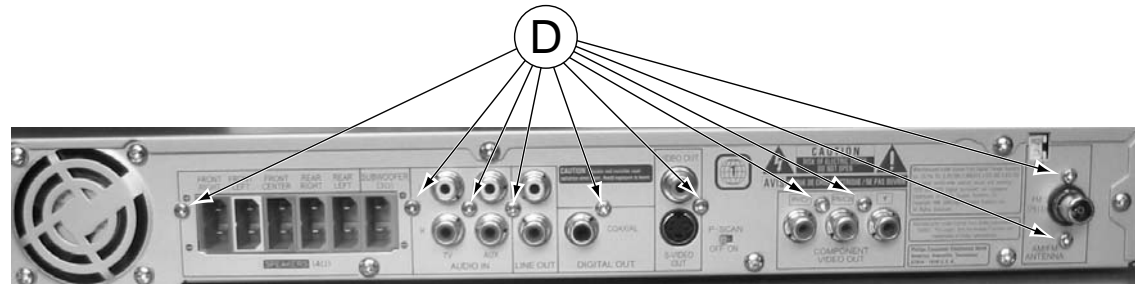

Figure 7
- 1) Loosen 10 screw " D " at the back panel as shown in figure 7 .